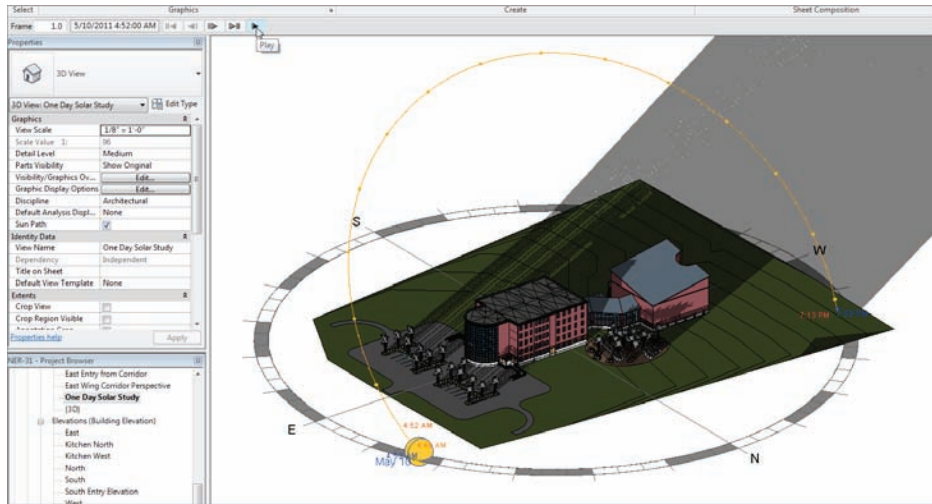

FIGURE 19.26 Clicking Play to start the solar study
12. On the Options bar, click the Play button, as shown in Figure 19.26.